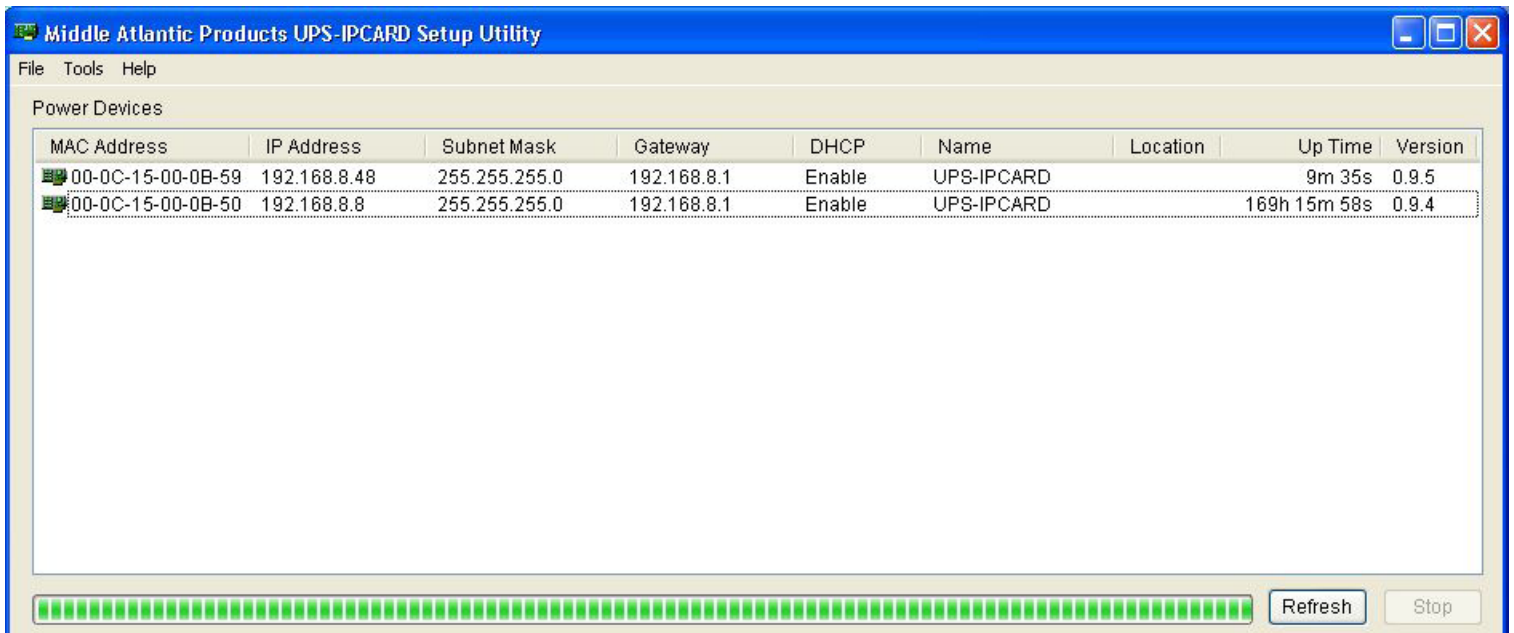

Figure 1. The main window of the “Middle Atlantic UPS-IPCARD Setup Utility” program.
- 3) The main dialog of the “Middle Atlantic UPS-IPCARD Setup Utility” program is shown in Figure 1. The configuration tool will display all Middle Atlantic network cards of present on the same network. The "Refresh" button is used to search the entire local network for SNMP cards.